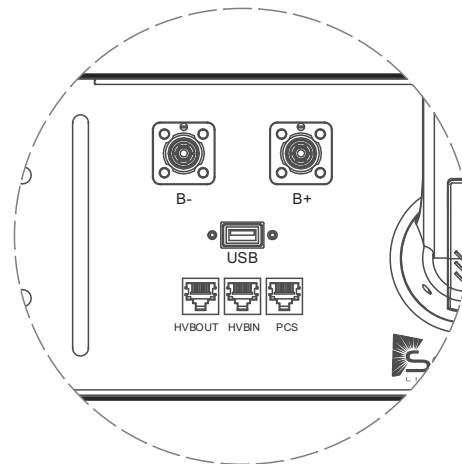

Figure 7 Battery Module Communication Ports
- B. Using the included Pushlok-to-ring terminal cables connect each cable to their respective PCS+ and PCS- ports of the battery as shown by **(A)** of Figure 7.
- C. Using the same cables, connect the ring terminal side to the positive and negative battery busbar as shown by **(A)** of Figure 7.
- D. Connect the included 9.8ft (300cm) red cable from the positive busbar to the positive terminal of the inverter as shown by **(B)** of Figure 7.
- E. Connect the included 9.8ft (300cm) black cable from the negative busbar to the negative terminal of the inverter as shown by **(B)** of Figure 7.